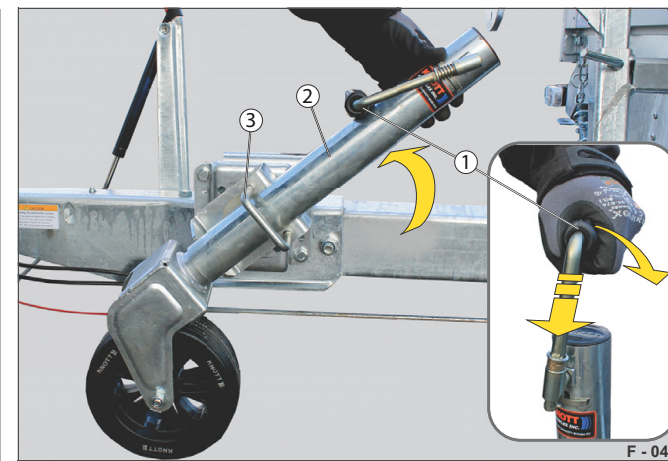

Fig. 19 Operating the jockey wheel
- Pull on the bracket (Fig. 19 /3) while pivoting the cylinder (Fig. 19 /2) in a vertical position - until it clicks into place.
- Press the crank (Fig. 19 /1) against the spring and fold it out.